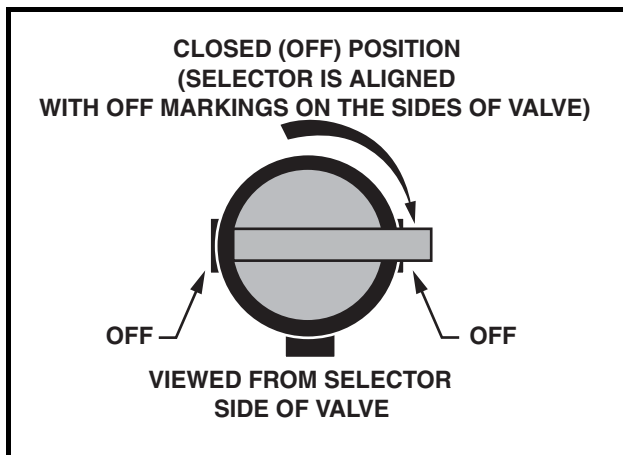

Figure 16 Fuel Shut-off Valve – Closed Position
- Gasoline vehicles only: Turn the fuel shut-off valve to the closed (OFF) position (**Figure 16, Page 27**).
- Turn the fuel shut-off valve to the closed (OFF) position (Figure 16).
- 2.1. Place the Forward/Reverse handle in the NEUTRAL position. Turn the fuel shut-off valve to the closed (OFF) position (**Figure 16, Page 27**) and run the engine until fuel remaining in the carburetor and fuel lines is depleted and the engine stalls.
- Turn the fuel shut-off valve to the closed (OFF) position (Figure 16, Page 27).